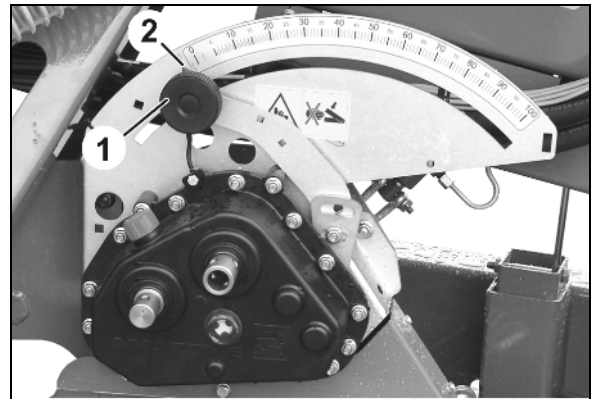

Fig. 64
4. Slacken the star knob (Fig. 64/1) of the gearbox setting lever.
5. Move the gearbox setting lever (Fig. 64/2) to one of the following gearbox settings:
6. Tighten star knob (Fig. 64/1).